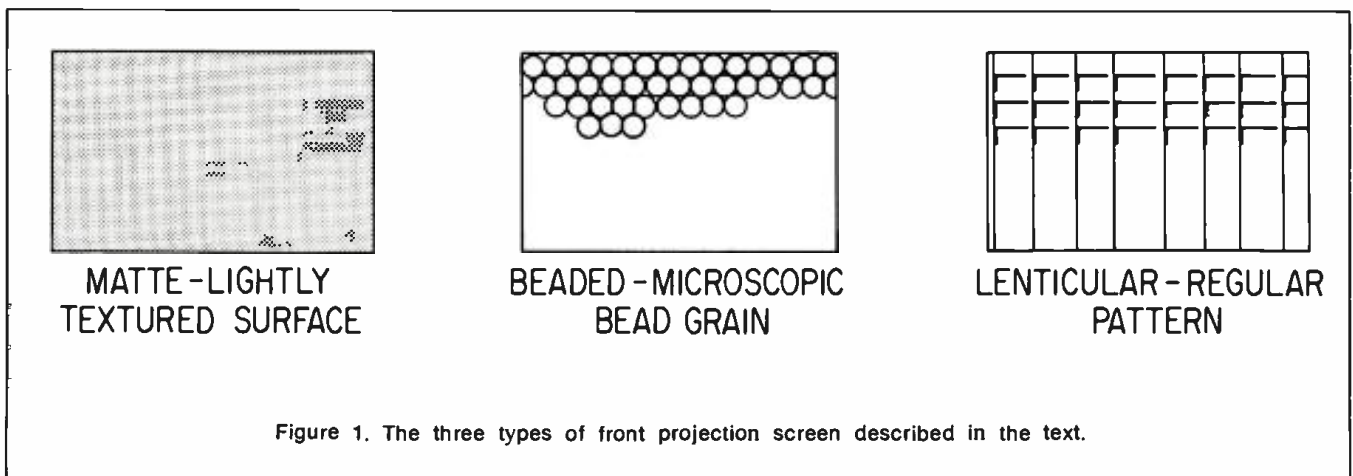

Figure 1. The three types of front projection screen described in the text.
Figure 1. The steps necessary to use Ulano Rubyolith® masking films. In (A) a sheet of this transparent deep red material is placed above the original drawing. A sharp knife traces the circuit paths (B) cutting through the red coating. Then lifting the edge with the knife, (C) the red is stripped off (D) leaving a clear plastic coating underneath. This can then be used as either a positive or negative for the etching procedure.
There is another process, frequently used by industry, which can be helpful. Assume that the pattern of lines, pads, etc. is available, in correct size. There is a material called **Rubylith**® (Ulano Corp.) available. It is a laminate of red and clear plastics. The red plastic is cut away with a small knife from those areas where it is desired to leave copper. This material, together with photo-resist can be used to make excellent boards. As an added advantage the same piece of Rubylith can be used to make more than one board. This process is illustrated in **FIGURE 1** showing the cutting, peeling, and finished product. The required material is available at many art supply stores in most metropolitan areas, according to the manufacturer.